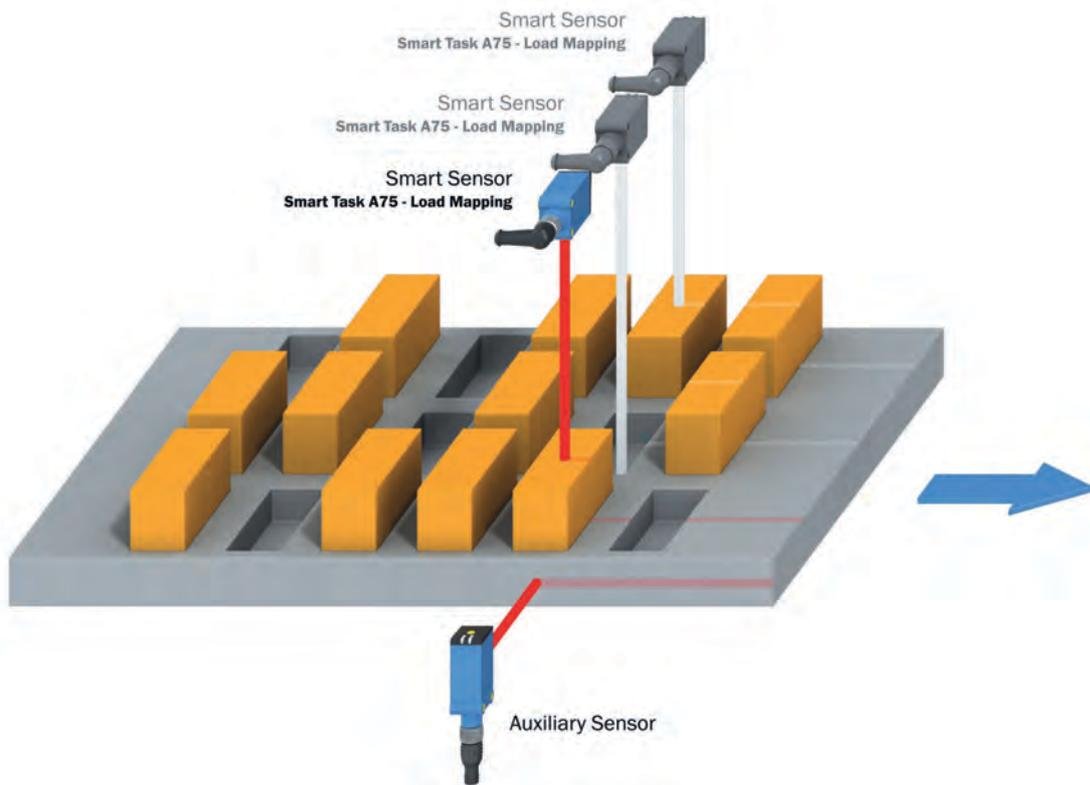

Figure 13: Workpiece carrier for Direct object detection, midpoint/width mode
- This mode is used when the A75 Smart Sensor, due to its detection principle, is able to detect the objects in the workpiece carrier individually and directly (i.e. the Smart Sensor can differentiate them from the workpiece carrier), see figure 13, page 56. In this operating mode, Qint.1 of the A75 Smart Sensor must deliver a HIGH signal when an object is detected in the workpiece carrier. The A75 Smart Sensor must deliver a LOW signal on Qint.1 between two objects.